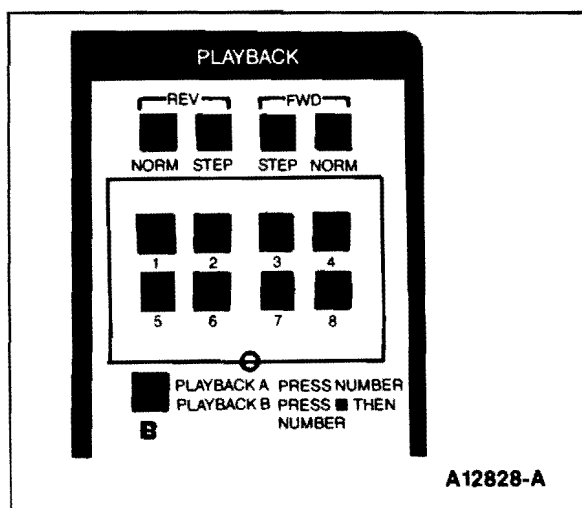

Figure 5
4. As a final step, install the white overlay card around the eight playback buttons. This card will be used later to keep track of the signal names of the recorded channels. Refer to **Figure 5**.